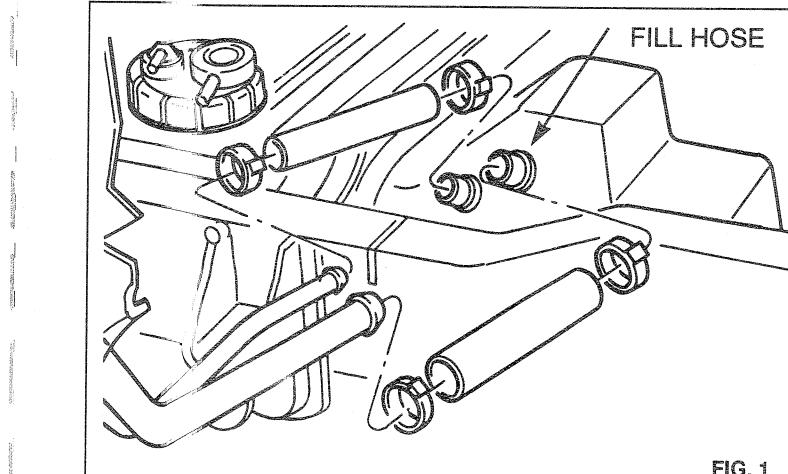

FIG. 1
- C) Place a drain hose into the fuel tank through the fill hose location. (See Fig. 1)